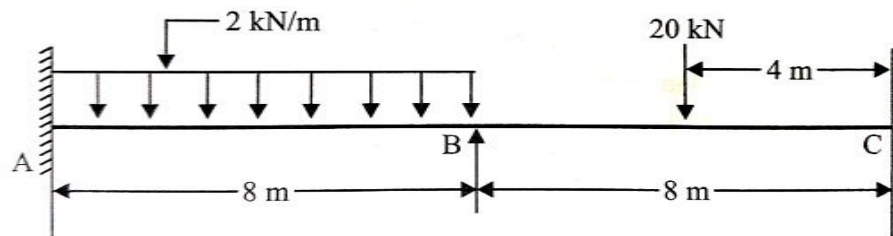

Figure 3.
4. Evaluate bending moment at the joints of the continuous beam ABC shown in figure 3, by the Moment Distribution Method. Draw the bending moment diagram also. [14M]